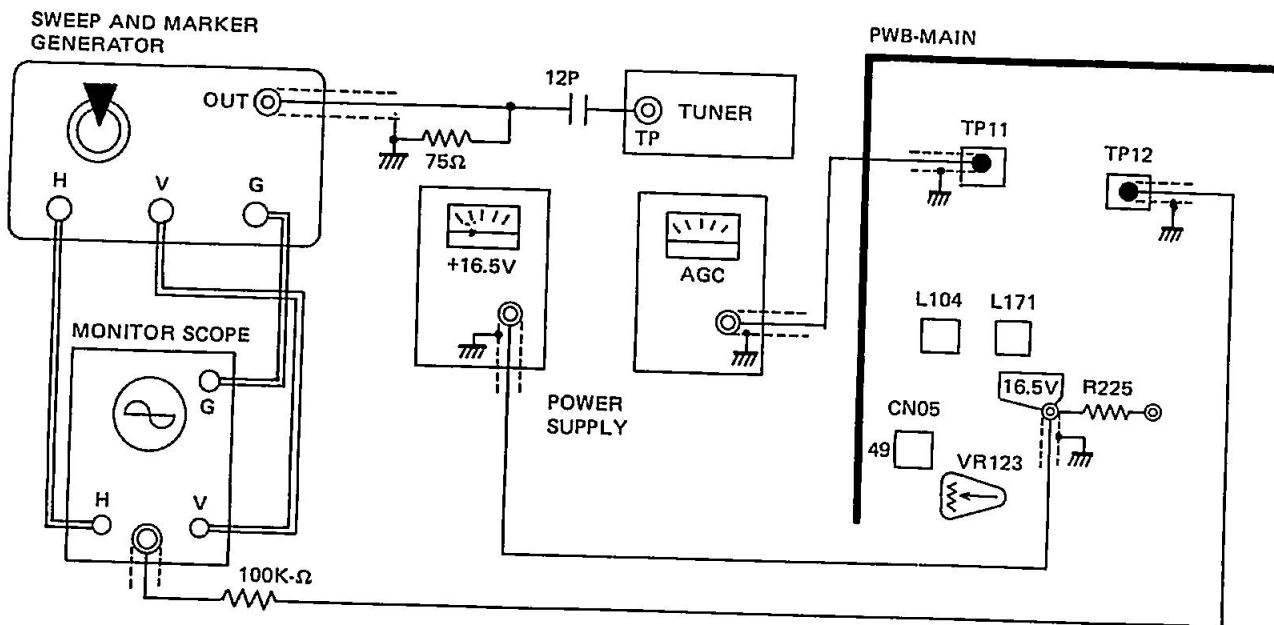

Figure 7. Picture I-F Sweep Alignment
Refer to figure 7 for alignment points and test equipment connections.
1. Connect output of sweep/marker generator to test point (TP) on the tuner. (See Fig. 7)